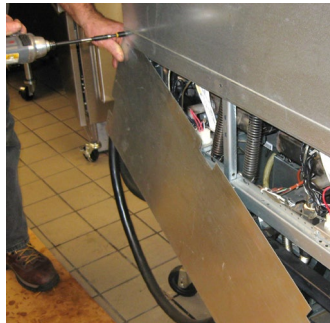

Figure 1
3. Remove the lower back of the fryer (see Figure 1).